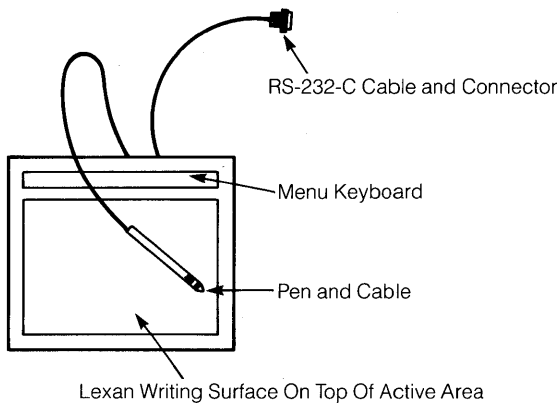

Figure 1: The components of the Graphics Tablet
- Figure 1: The components of the Graphics Tablet